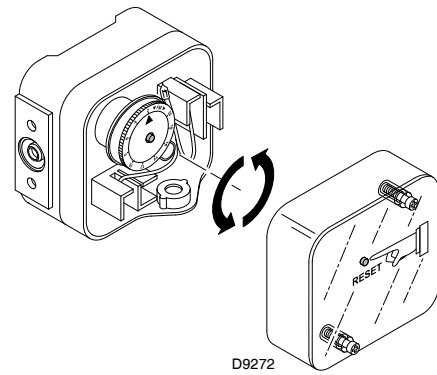

Fig. 39
- Adjust the maximum gas pressure switch (Fig. 39) to the end of the scale.
Adjust the maximum gas pressure switch (Fig. 39) after having performed all other burner adjustments with the maximum gas pressure switch set to the end of the scale.